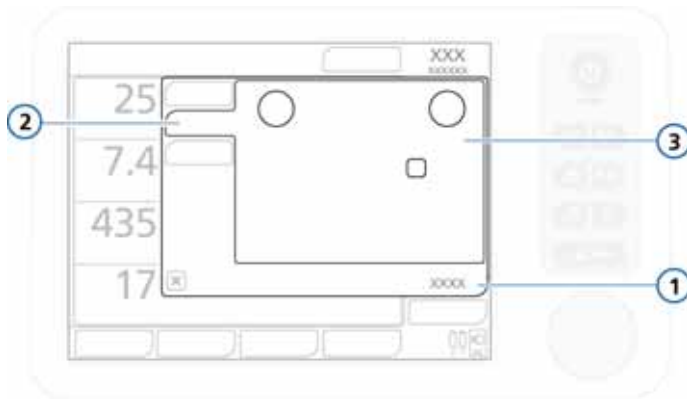

Figure 5-6. More settings, Controls window
3. Open the **Controls** -> **More** window (Figure 5-6), and select and adjust parameters as desired.
2. Open the **Controls** -> **More** window (Figure 5-6), and select and adjust parameters as desired.